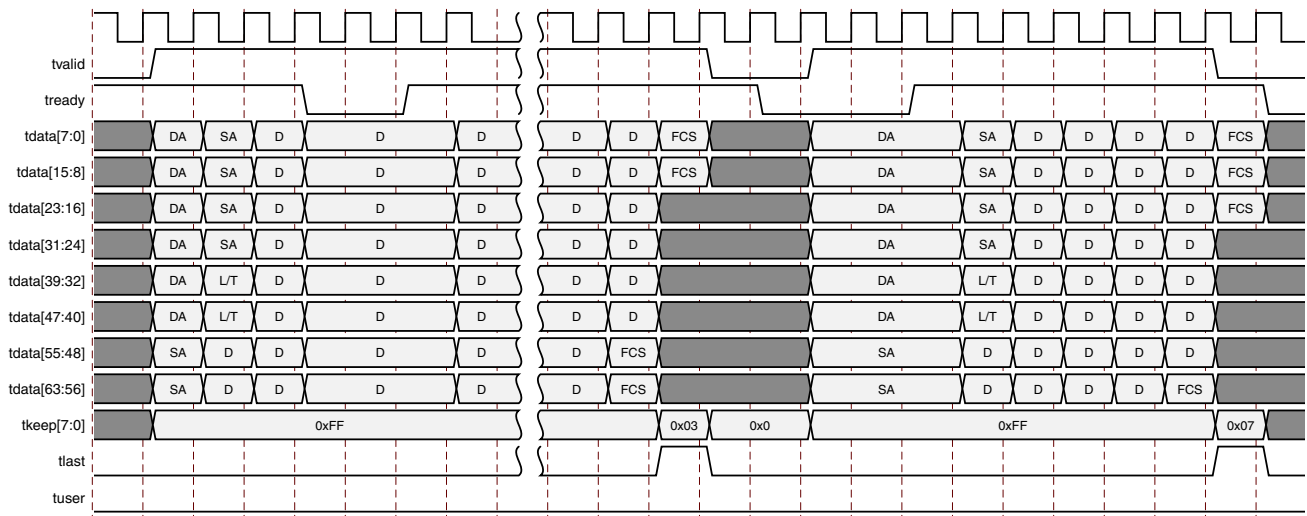

Figure 2-13: Normal Frame Transfer – 64 Bits
The timing of a normal frame transfer is shown in Figure 2-13. When the client wants to transmit a frame, it asserts the `tx_axis_tvalid` and places the data and control in `tx_axis_tdata` and `tx_axis_tkeep` in the same clock cycle. When this data is accepted by the core, indicated by `tx_axis_tready` being asserted, the client must provide the next cycle of data. If `tx_axis_tready` is not asserted by the core, the client must hold the current valid data value until it is. The end of the packet is indicated to the core by `tx_axis_tlast` asserted for 1 cycle. The bits of `tx_axis_tkeep` are set appropriately to indicate the number of valid bytes in the final data transfer. `tx_axis_tuser` is also asserted to indicate a bad packet.
- An explicit error in which a frame transfer is aborted by deasserting `tx_axis_tuser` High while `tx_axis_tlast` is High. [see Figure 2-13]